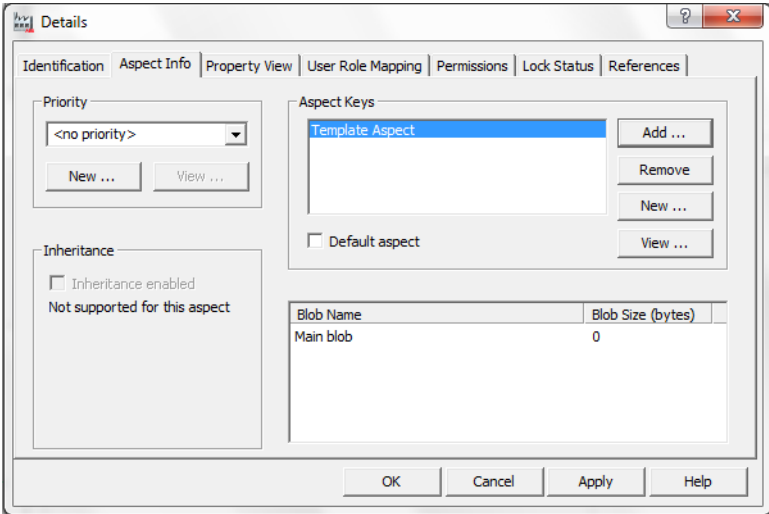

Figure 291. The Aspect Details Tab
7. Add a **Template Aspect** key and click **OK**, see Figure 291.